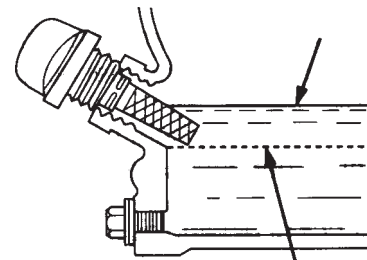

Figure 20. Engine Oil Dipstick (Oil Level)
4. If the oil level is low (Figure 20), fill to the edge of the oil filler hole with the recommended oil type (Table 4).